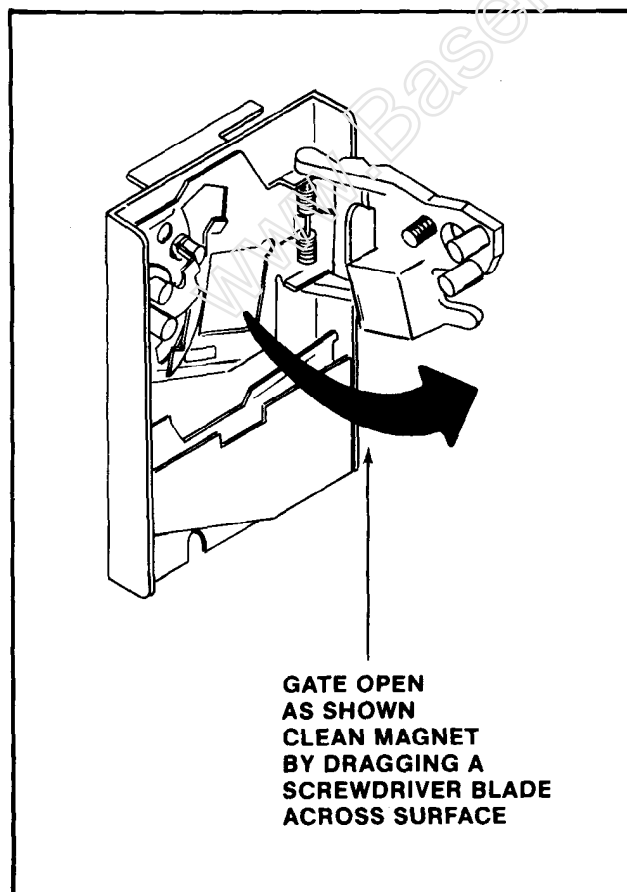

Figure 4-2 Cleaning the Metal Coin Acceptor
4. Clean the magnet of all foreign particles. See Figure 4-2.